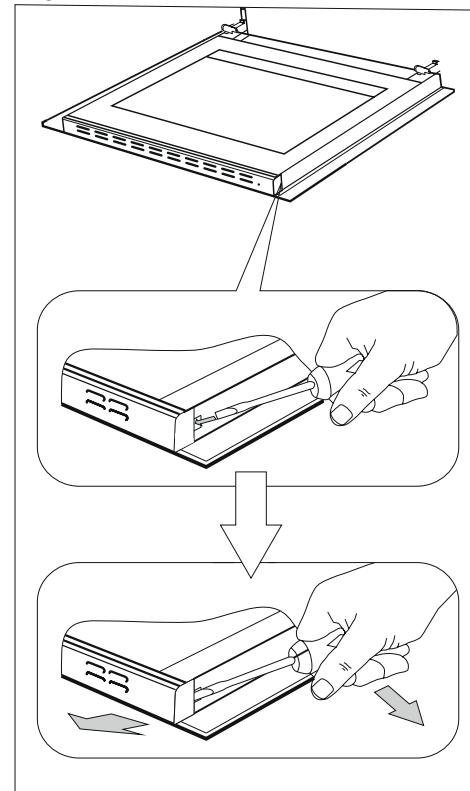

Fig. 8
2. Remove the clamps with a flat screwdriver and remove the upper door bar (Fig. 8).